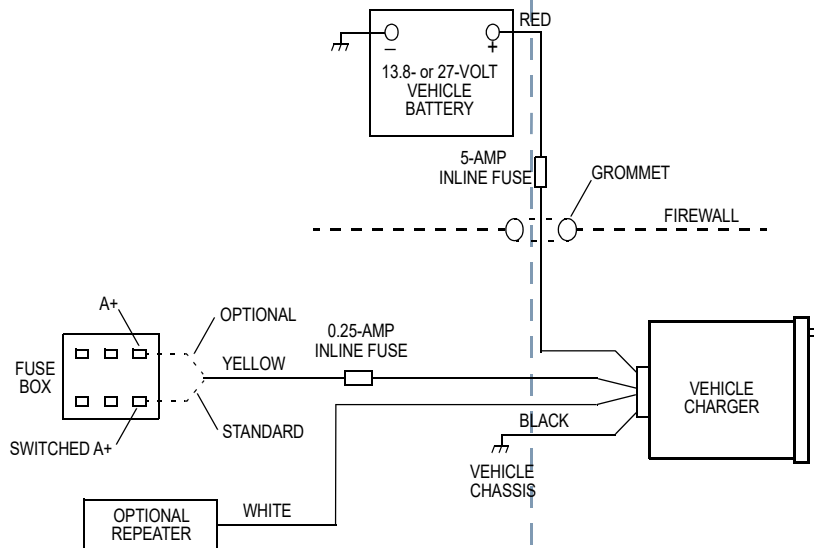

Figure 2 Cable Console
7. Referring to Table 1 on page 2 and Figure 2, connect the red (A+) wire (with the inline fuse) of the supplied cable to either an unswitched terminal on the fuse box of the vehicle or directly to the positive (+) terminal of the battery of the vehicle. Always position the fuse as close to the voltage source as possible.